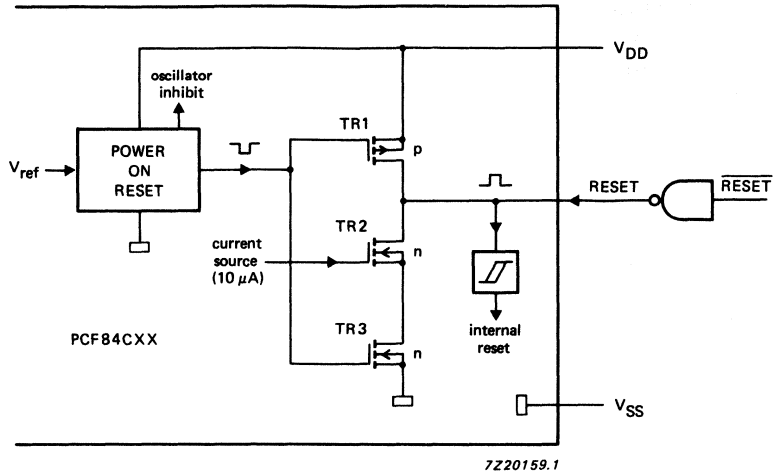
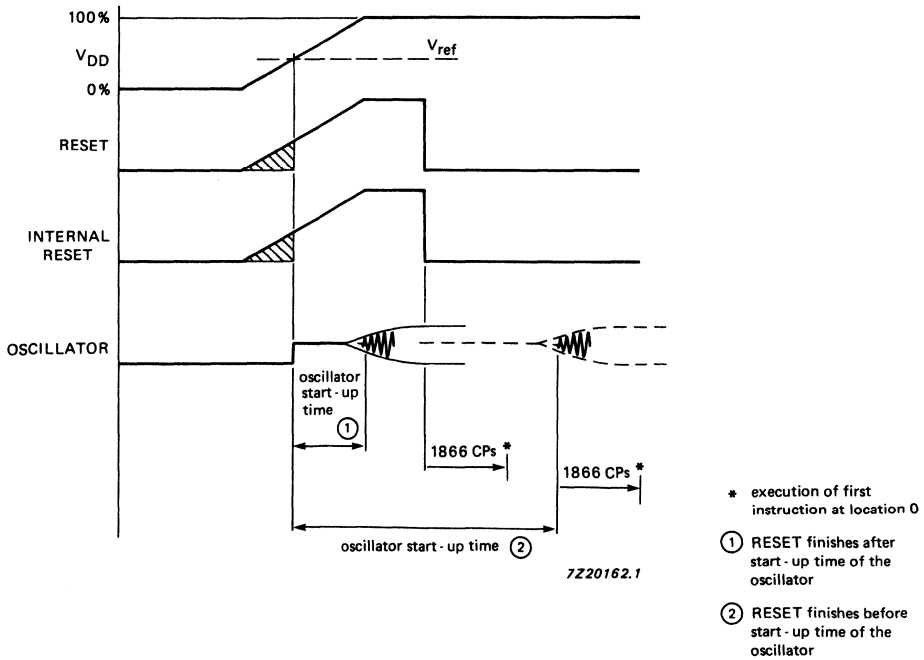

Fig. 27 External power-on-reset configuration.
Fig. 28 Timing of external power-on-reset.
3. Figure 27 shows an external reset to the PCF84CXX during power-on. The external reset signal must remain HIGH until  $V_{DD}$  has reached its minimum operating value corresponding to the selected oscillator frequency. When a reset is completed (RESET goes LOW) before the oscillator has started up, program execution begins after the oscillator start-up time plus 1866 clock periods have elapsed (see Fig. 28). If the oscillator is started up prior to the completion of RESET, then program execution begins 1866 clock periods after RESET goes LOW.